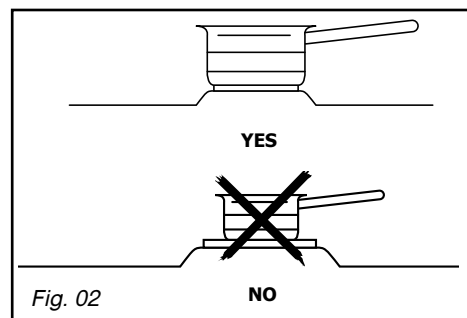

Fig. 02
– Do not use concave or convex cookware without the appropriate supports (Fig. 02).
– Use cookware of an appropriate size: the diameter of the bottom of the cookware should be equal to or greater than the diameter of the electric cooking plate (Fig. 02).